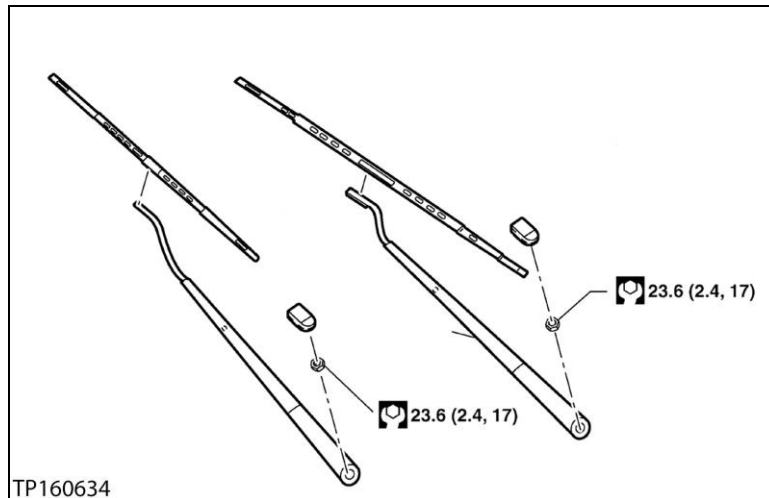

Figure 115
f. Install the wiper arms with nuts and covers (see Figure 115).